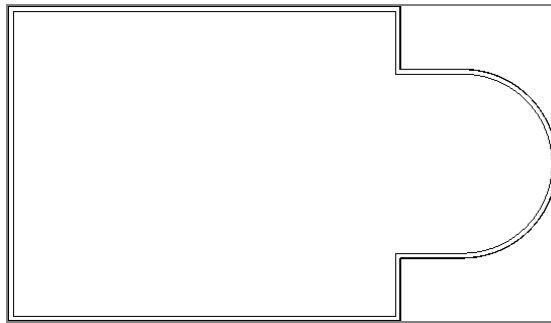

FIGURE 1.32 : The completed exterior walls should look like this illustration.
11. When you see the tangent snap icon, choose the third point. Your walls should look like Figure 1.32.